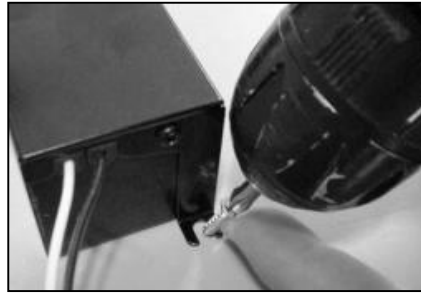

Figure 11
5.5 Secure power supply to clean metal surface using screws (see figure 11)